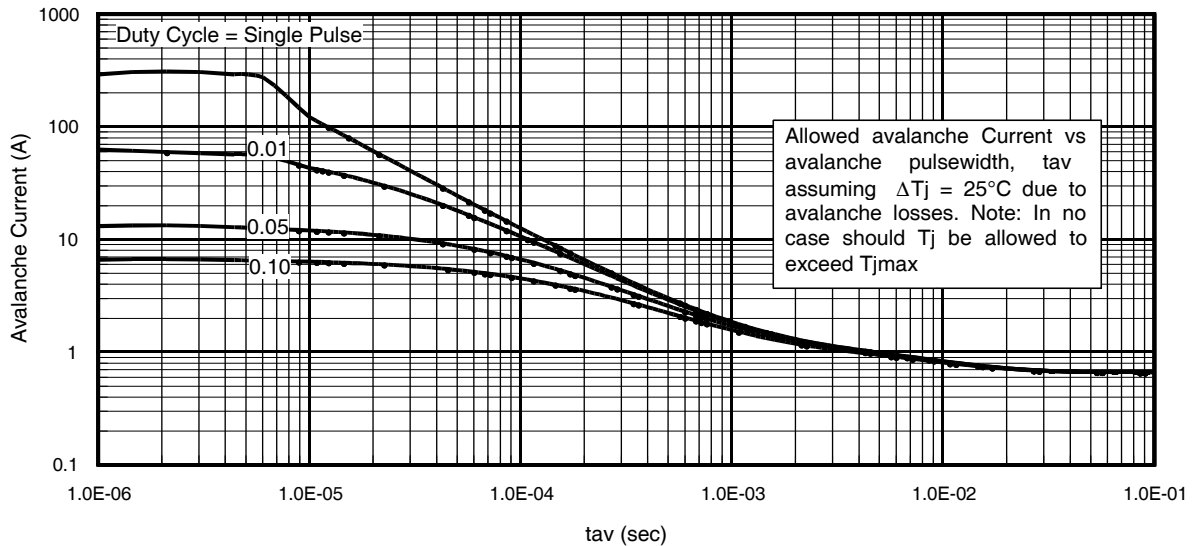

Fig 14. Typical Avalanche Current vs. Pulsewidth
| $I_{AR}$                     | Avalanche Current ①             | See Fig. 14, 15, 16a, 16b, | A  |
**Notes on Repetitive Avalanche Curves , Figures 14, 15:**
7.  $\Delta T$  = Allowable rise in junction temperature, not to exceed  $T_{jmax}$  (assumed as 25°C in Figure 14, 15).